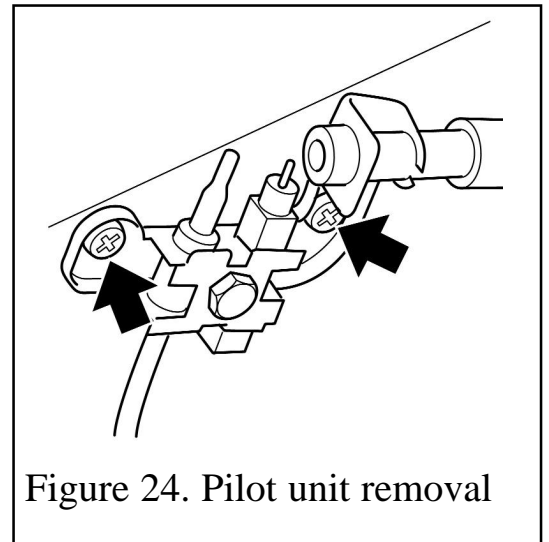

Figure 24. Pilot unit removal
6. Remove the two screws securing the pilot unit (See figure 24).